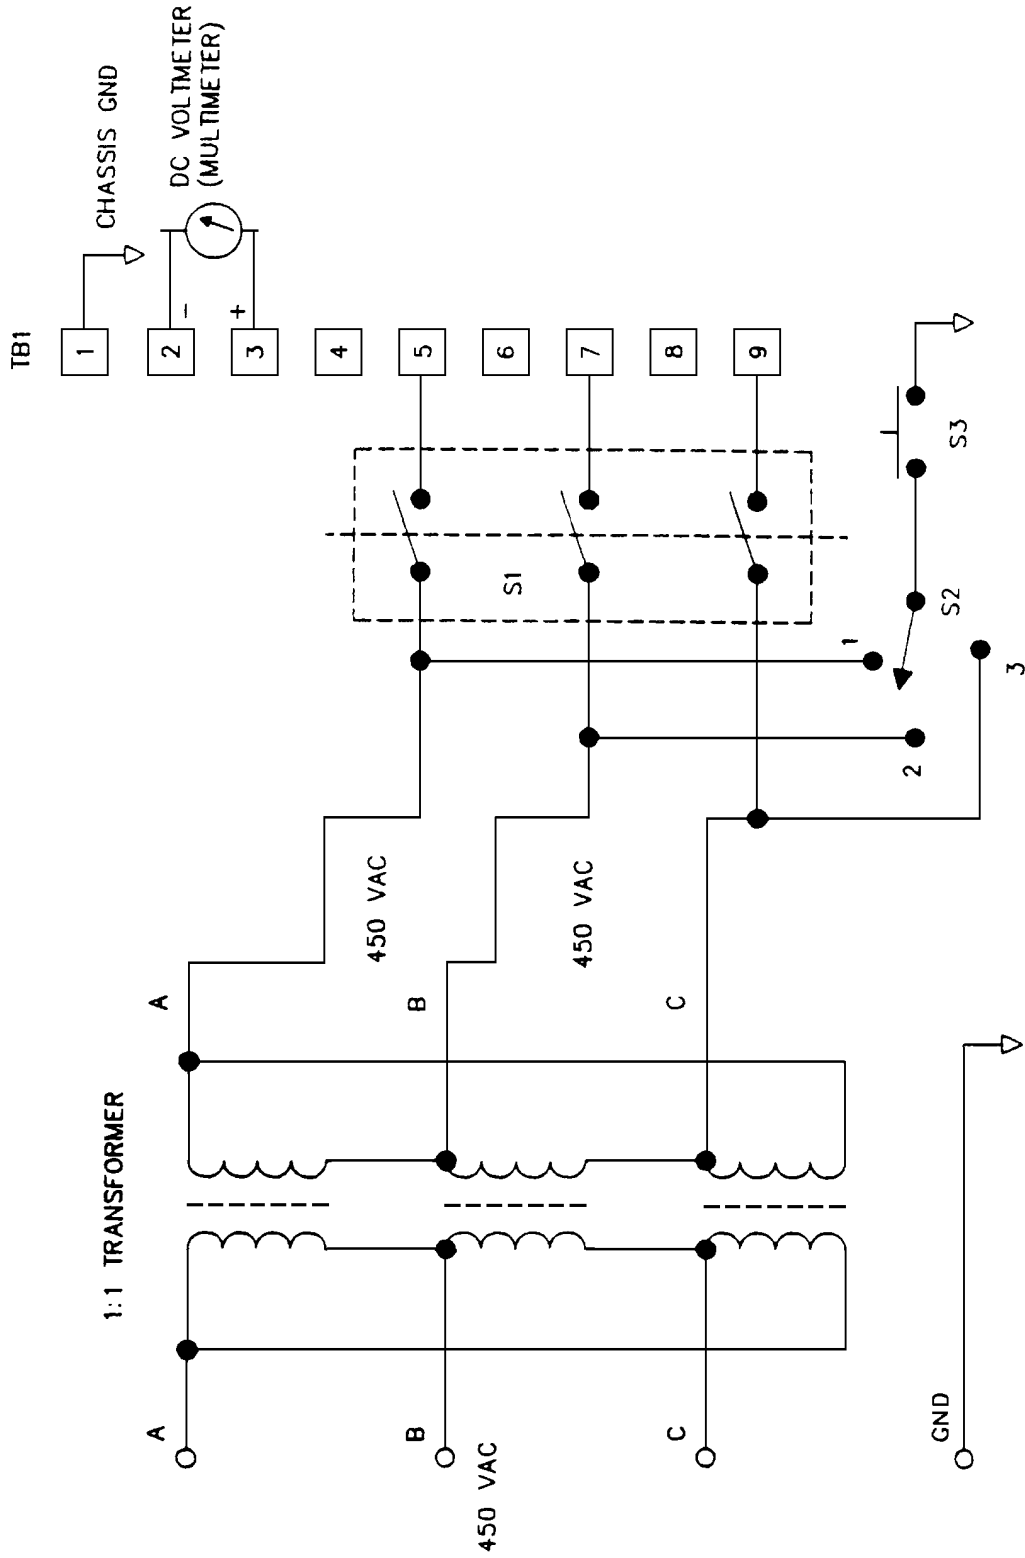

Figure 5-9. Bus Ground Detector Test Connection
- b. Connect ground detector to test components according to figure 5-9.
- (1) TB1-5 to TB1-7
- (2) TB1-7 to TB1-9
- (3) TB1-5 to TB1-9